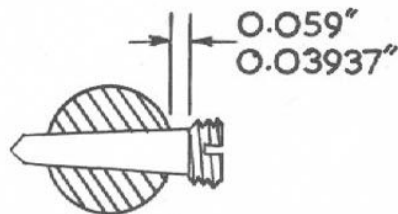

FIG: 1.
2. Fit pawl to spindle and using a hand taper reamer. (nominal diameter 3 m.m., 1 in 50 taper) ream hole in spindle and pawl to fit tapered setscrew. Correct fit is obtained when the underside of the screw head is approximately 0.03937" - 0.059" clear of the spindle (pawl removed) as illustrated in fig.1.